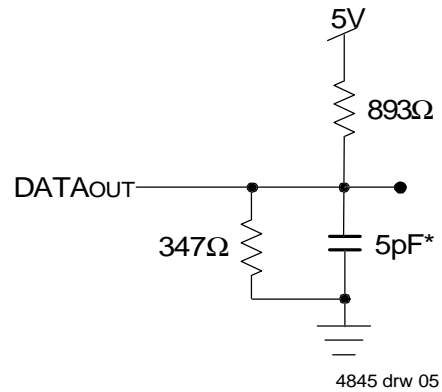

Figure 2. Output Test Load
1. Transition is measured 0mV from Low or High-impedance voltage with the Output Test Load (Figure 2). This parameter is guaranteed by device characterization, but is not production tested.
1. Transition is measured 0mV from Low or High-impedance voltage with the Output Test Load (Figure 2).
3. Transition is measured 0mV from Low or High-impedance voltage with the Output Test Load (Figure 2).